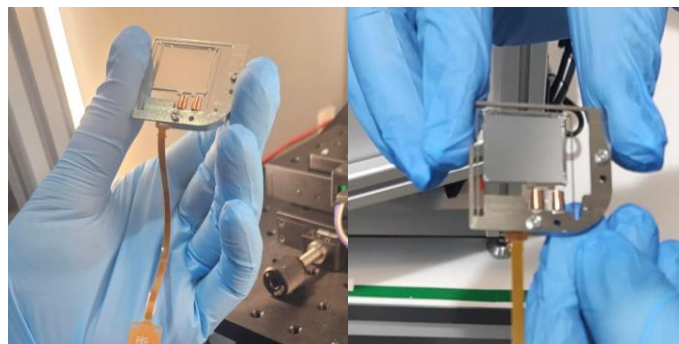

Figure 3: Manual handling of the LSR-4C. Avoid touching the diffuser and only hold the device by the edges.
- Use gloves when handling the LSR-4C and only grab it by the edges, without touching the spring or diffuser. See Figure 3.